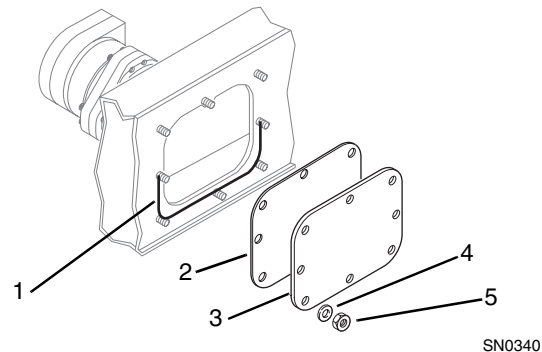

Figure 5-70 Cover Installation
15. Clean any sealer residue from the lower part of the side cover opening (Fig. 5-70, 1). Apply a new 1/8" bead of sealant (1) such as Permatex 2 RTV around the lower half of the opening.
16. Reassemble the cover gasket (2) and cover (3) to the side of the chain case using the original washers (4) and new hex locknuts (5). Torque the eight locknuts to 14 lb/ft (19 Nm).